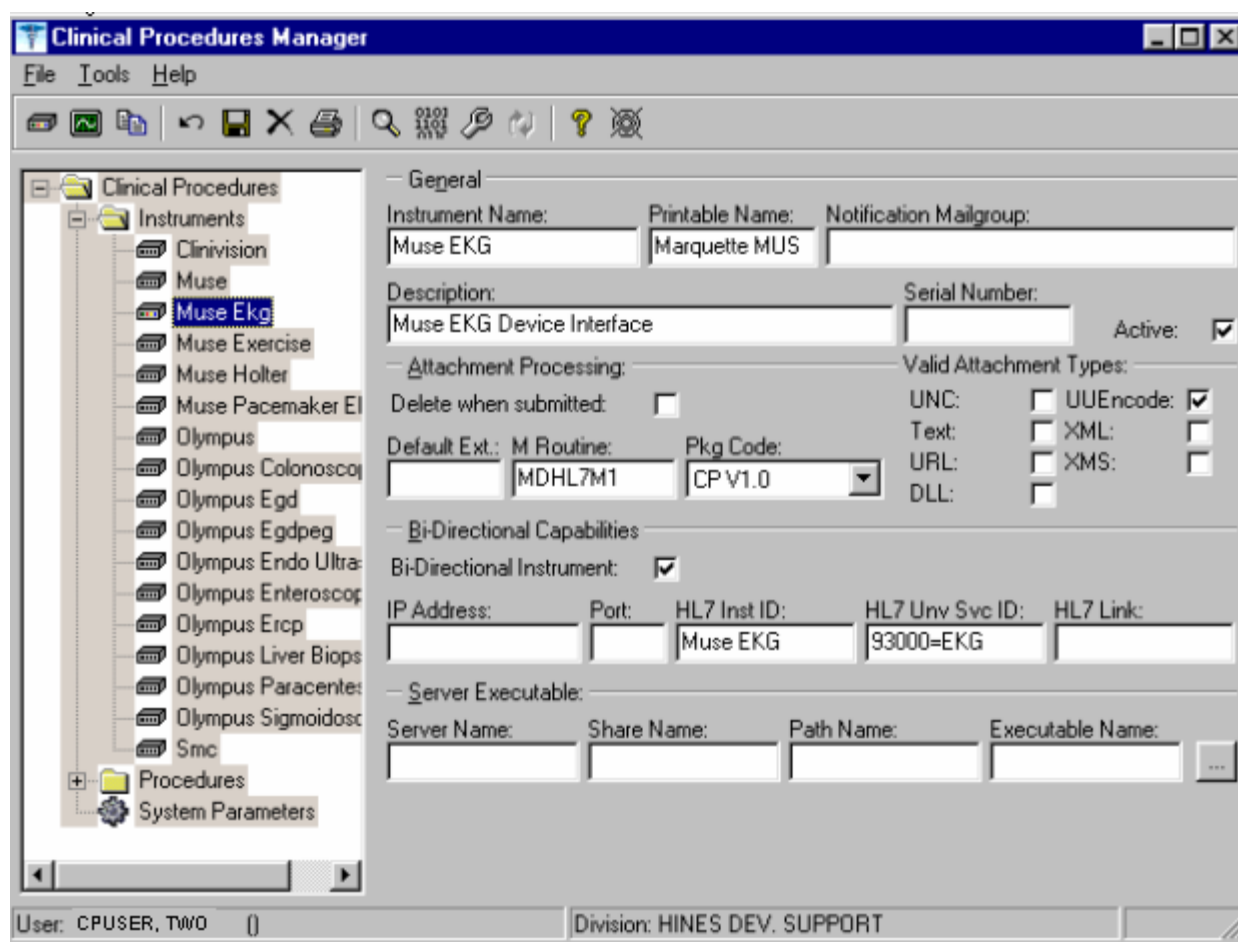

Fig. 6-5
3. Click **OK**. The Edit screen is displayed. Fig. 6-5 is the edit screen for automated instruments. The Automated Instrument Name that you just entered is displayed.